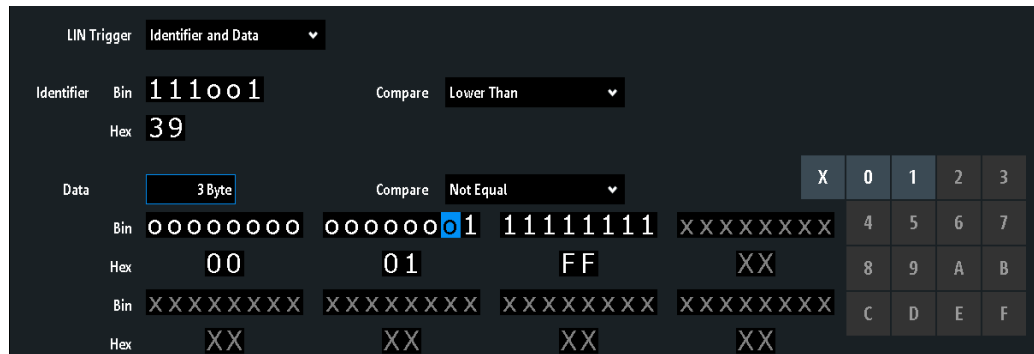

Figure 12-32: Trigger setup to trigger on identifier and data patterns
- "Identifier and Data" Triggers on a combination of identifier and data condition. The instrument triggers at the end of the last byte of the specified data pattern. An example is shown in Figure 12-32. See "Identifier condition" on page 298 and "Data condition" on page 299.